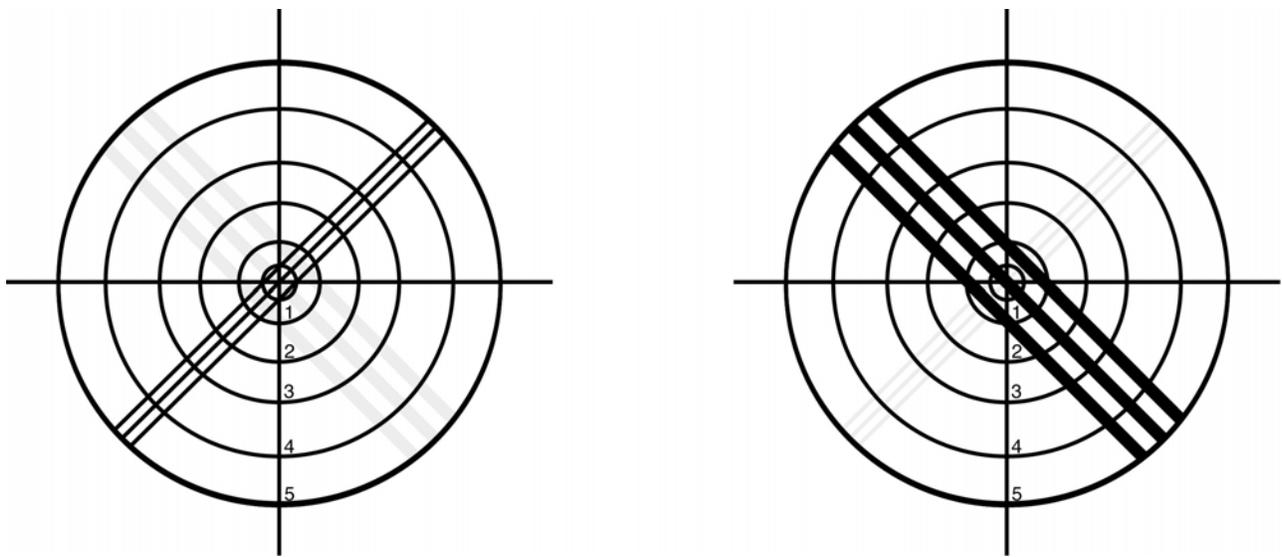

FIGURE 7
- a. Place one hand on the axis wheel, the other on the power wheel. Starting from the plus, decrease power and rotate the axis wheel until the sphere lines are unbroken and in sharp focus (Figure 7, left). (The sphere lines or line will be the three closely spaced lines or a single line.) The lens sphere power is the power at which the sphere lines focus.
- c. Continue focusing in the minus power direction until the cylinder lines (the widely spaced set of 3 lines) are in focus (Figure 7, right). Do not move the axis wheel.